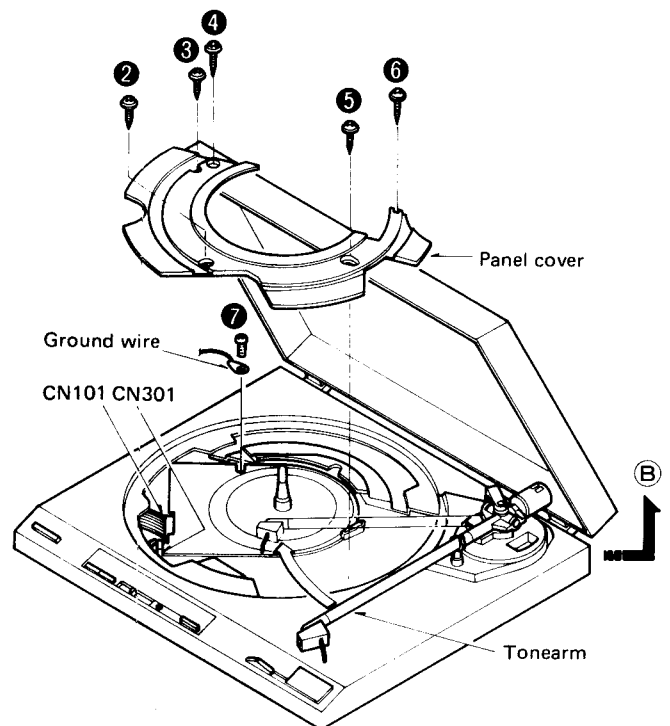

Fig. 2
3. Remove the 5 panel cover setscrews (Fig. 2 : ② ~ ⑥) and the panel cover.
5. Remove the ground wire setscrew (Fig. 2 : ⑦) and ground wire.
10. Remove the tonearm from the arm rest and bring the tonearm to the center spindle as shown in Fig. 2.